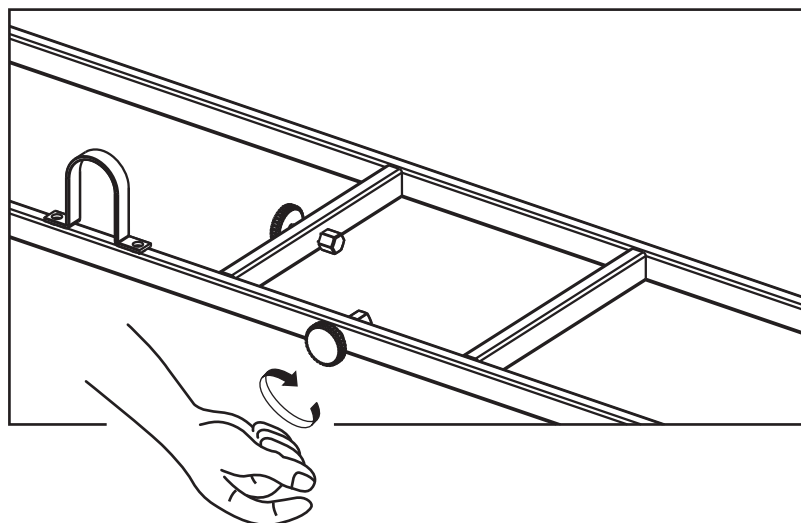

Figure 7
5. Tighten threaded knobs found on tank tray (Figure 7) so that the LP tank can not move from side to side. Do not remove plastic cap from end of threaded section.